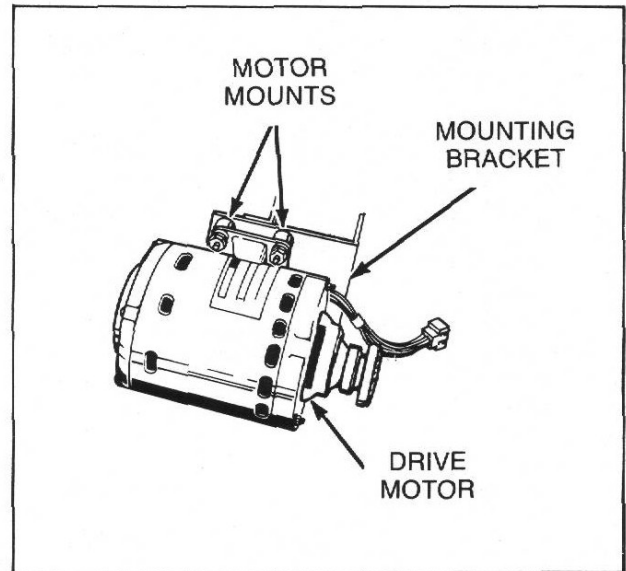

Figure 30
- b. Remove four nuts, washers and lockwashers holding drive motor to rubber motor mounts, *Figure 30*.